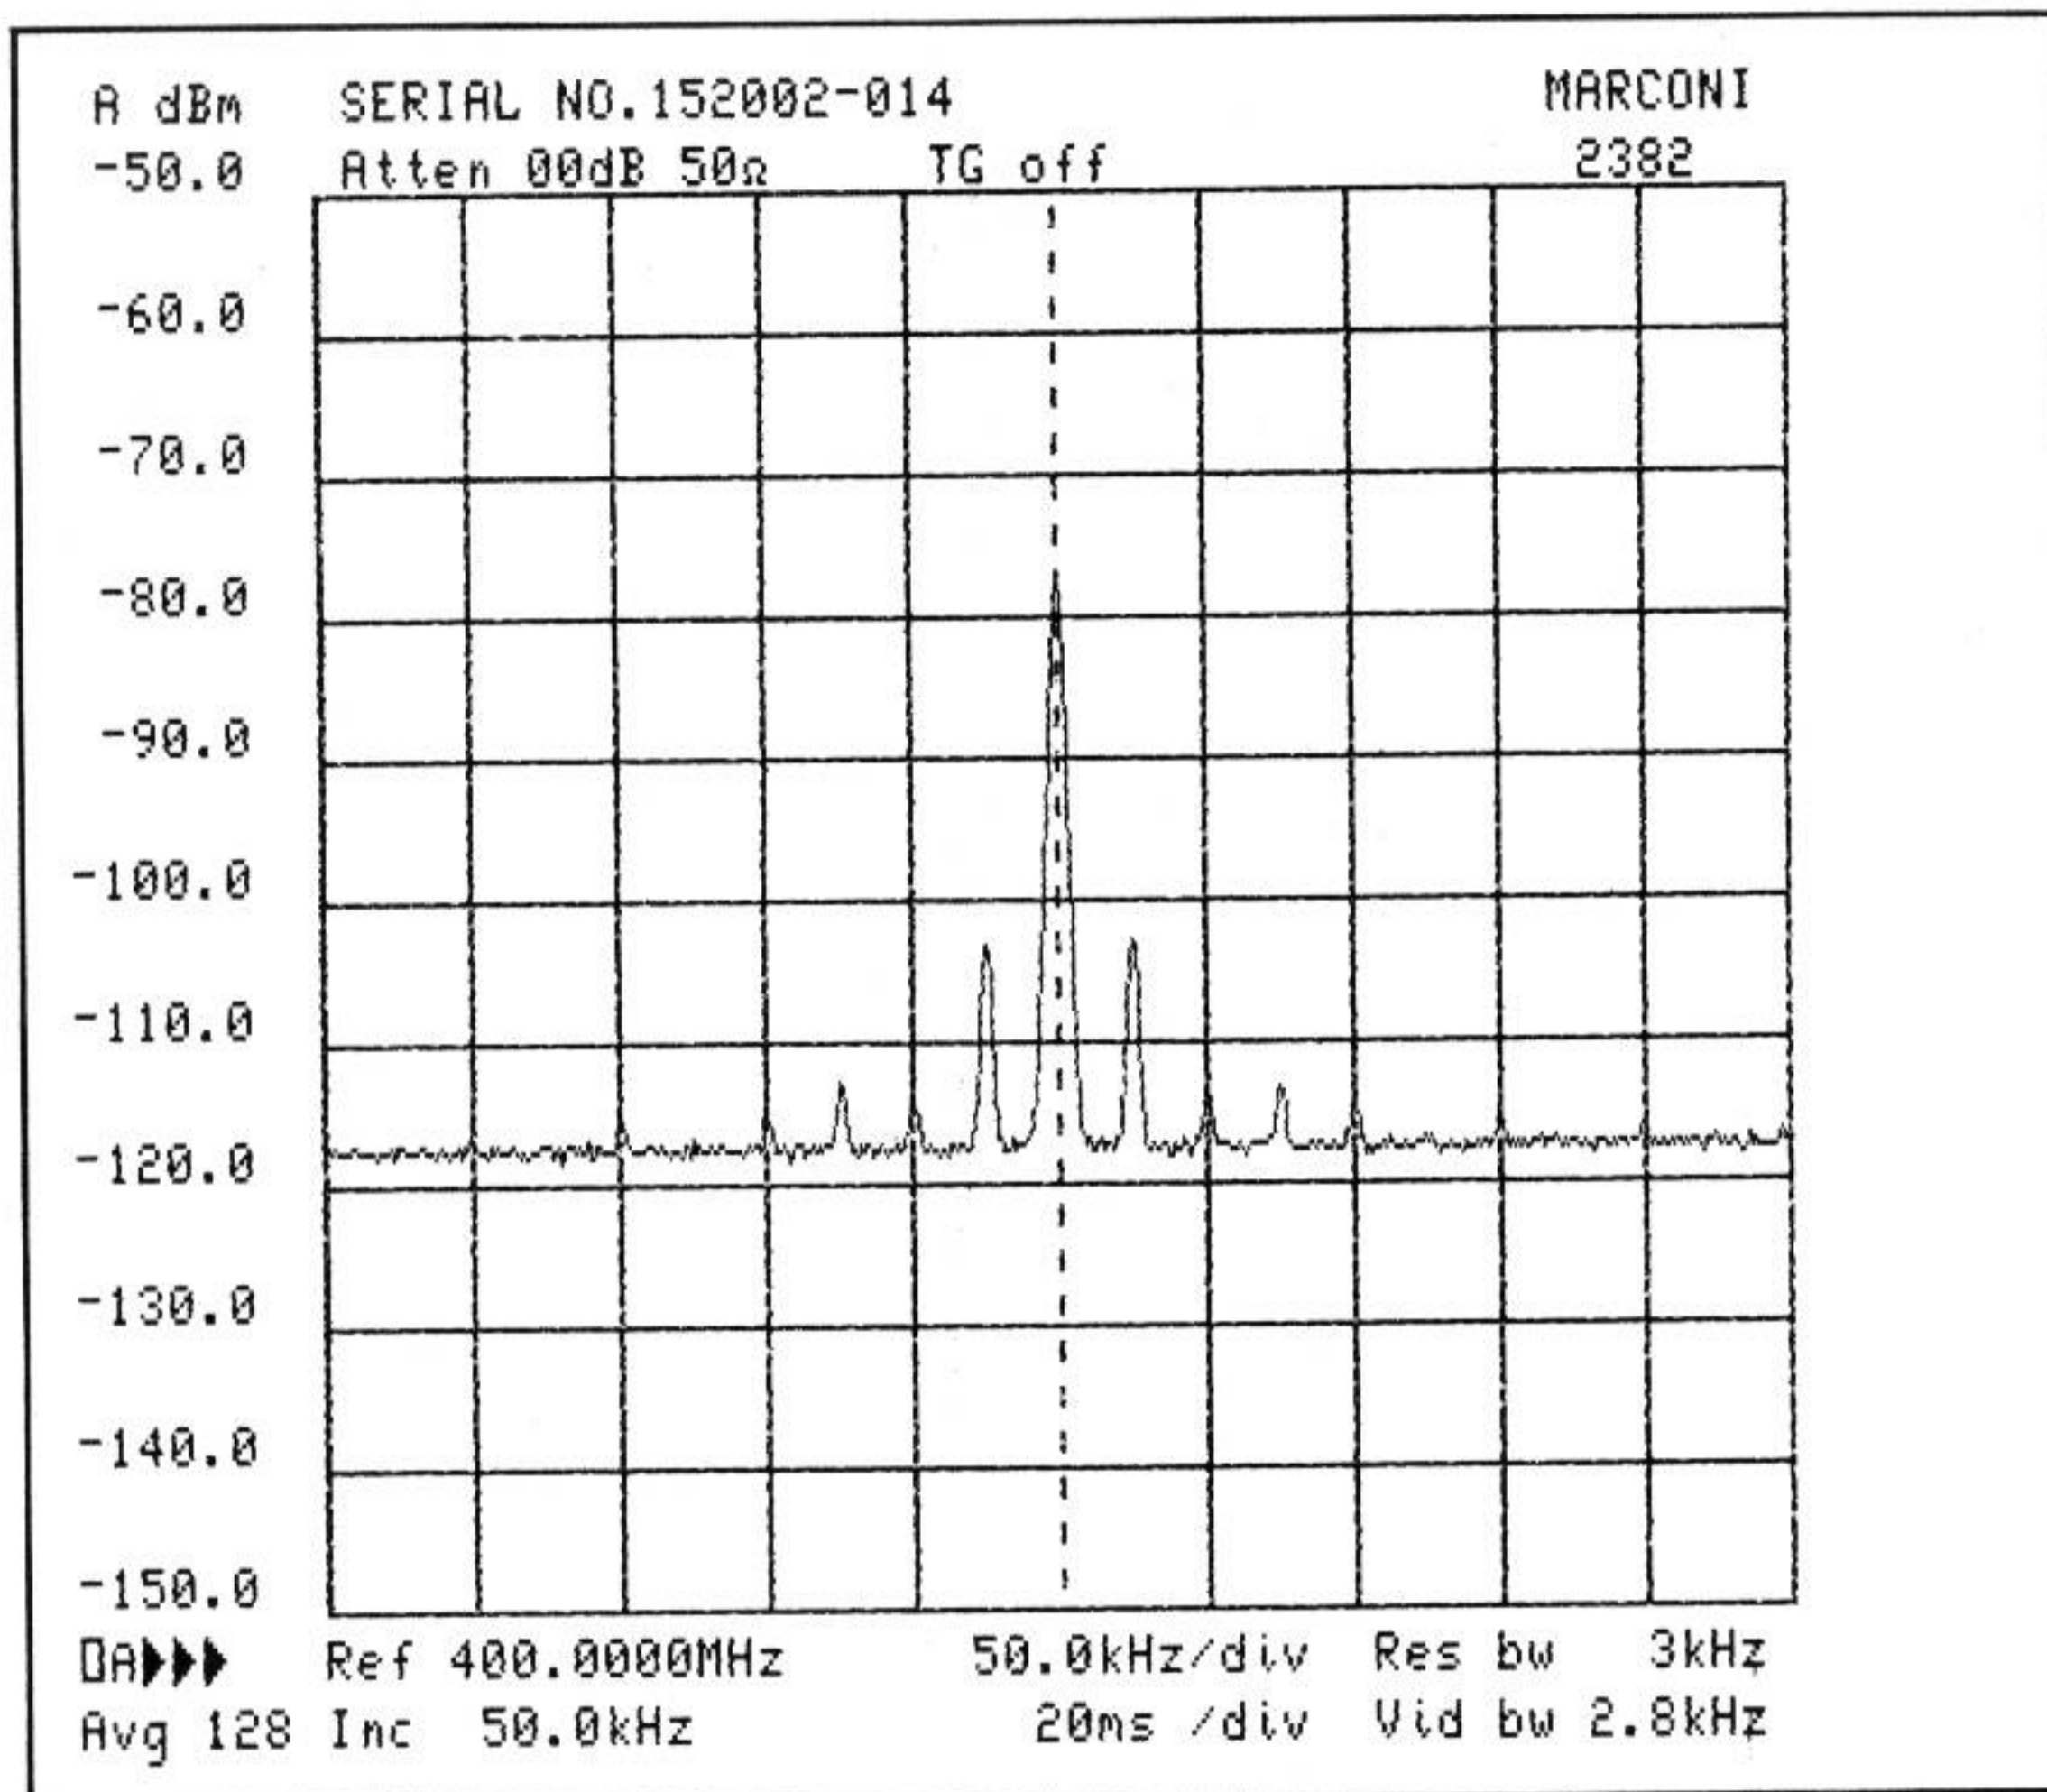

Fig. 17 Low level signal measurement by video averaging
75. The above method for measuring low level signals requires a very slow sweep to achieve results. The second method using video averaging allows a more instantaneous display and changes in noise smoothing can be seen almost immediately. Return the analyzer controls to their previous positions so that REF LEVEL is 0 dBm, vertical scale is 10 dB/div. and AUTO FILTER BANDWIDTH, SWEEP TIME and VIDEO BANDWIDTH are selected. Press the display A VIDEO AVG key and full information on the use of this function is displayed on the screen. Using the DATA keypad, key into the instrument the number which gives the required sweeps to be averaged. The higher the number of sweeps the greater the smoothing but the time taken is longer. The maximum number of sweeps possible is 128(2⁷). After a keypad entry is made, as the sweeps are completed they are counted and shown at the bottom of the screen. The reduced level of noise is apparent almost immediately and upon completion the low level signal can be seen and measured as required (refer. Fig. 17). If VIDEO AVG has been selected in error it can be cleared by operating DATA key 0, otherwise to erase a completed or part completed entry, press the VIDEO AVG key again.